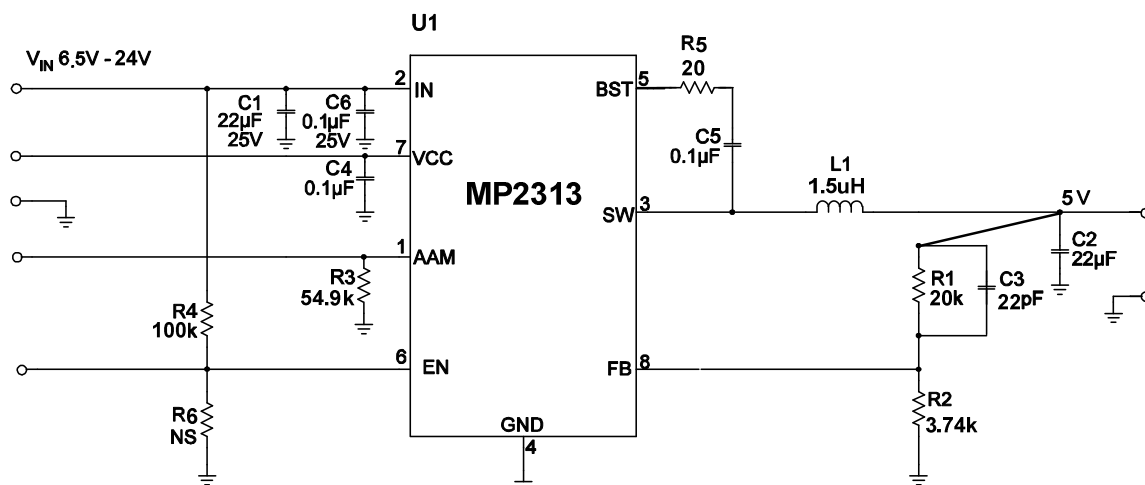

Figure 10: $V_{IN}=19V$, $V_{OUT}=5V$, $I_{OUT}=1A$
- 6) The recommended layout is based on the Figure 10 Typical Application circuit on the page 16.
The detailed application schematics are shown in Figures 10 through 15. The typical performance and circuit waveforms have been shown in the Typical Performance Characteristics section. For more device applications, please refer to the related Evaluation Board Datasheets.